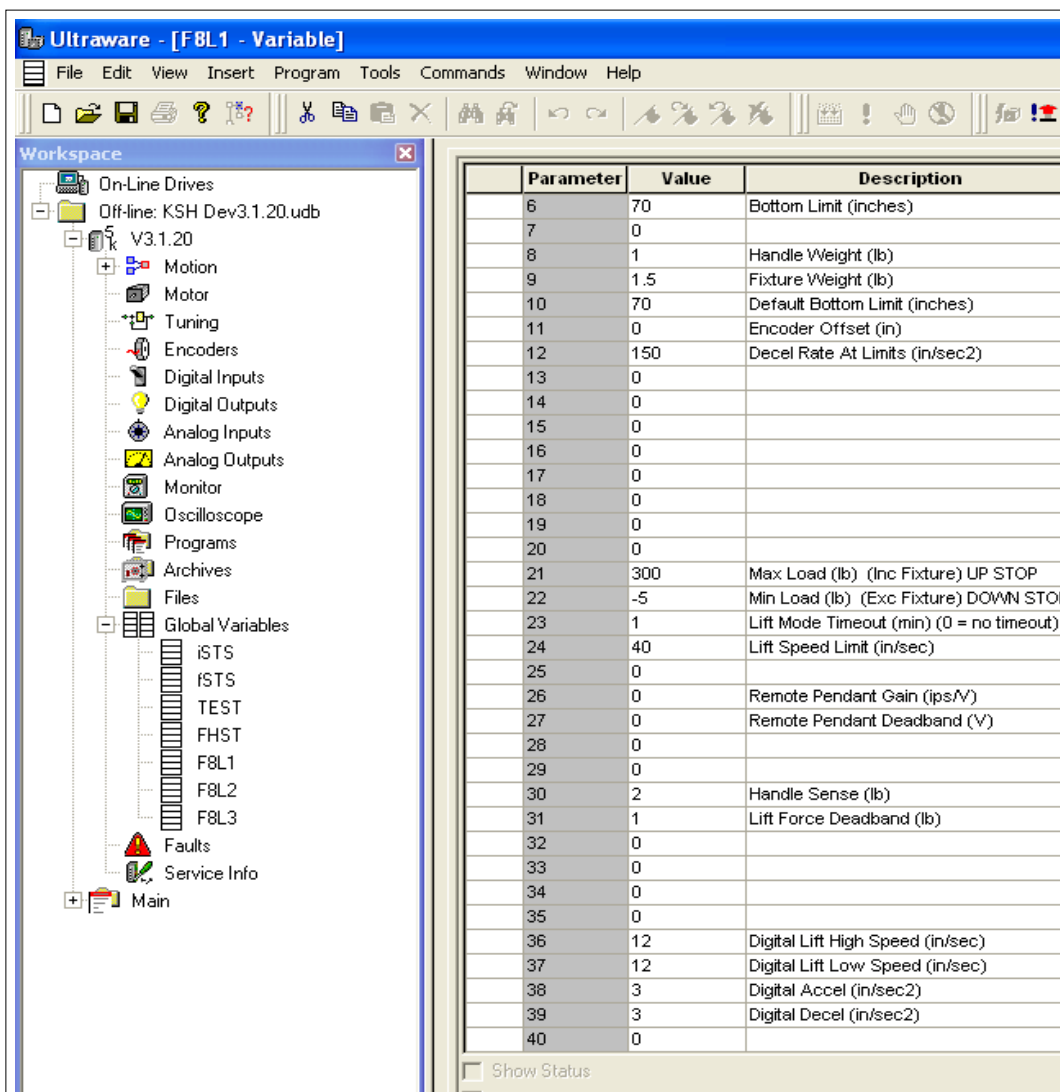

Figure 5-19
- Step 3. Open Global Variable table F8L1 and scroll down to F8L1:36 (high speed digital value in in/sec.) and F8L1:37 (low speed digital value in in/sec.) (Figure 5-19)
- Step 1. Open Global Variable table F8L1 and scroll down to F8L1:38 (digital acceleration value in in/sec²) and F8L1:39 (digital deceleration value in in/sec²). (Figure 5-19)